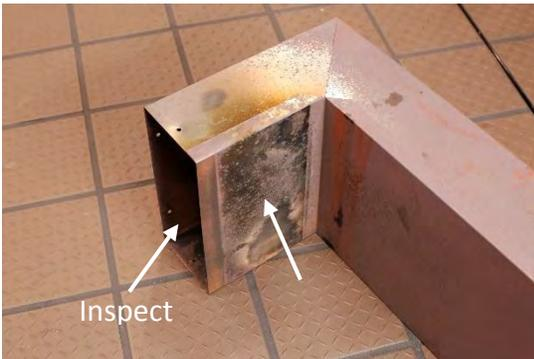

Figure 5
4. Once removed, Inspect the flue and transition assembly (figure 5). Clean out any debris or obstruction found in the flue assembly and inspect the integrity of the transition. If excessive corrosion casing holes to form in the transition are found, this step of the inspection does not pass until the flue assembly is replaced. The fryer would also need to be taken out of service until a new flue assembly is installed. Please refer to the parts manual for the part number.